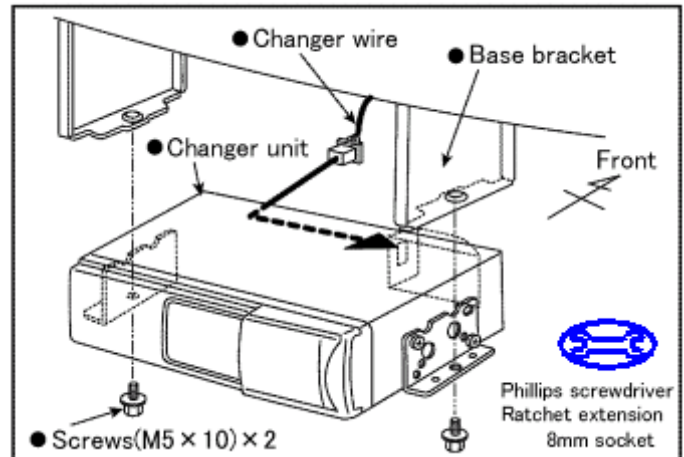

Figure T1
1. Connect the 12-pin changer wire connector to CD changer. (Figure T1)
2. Use 8mm socket to attach changer unit to base bracket. (Figure T1)